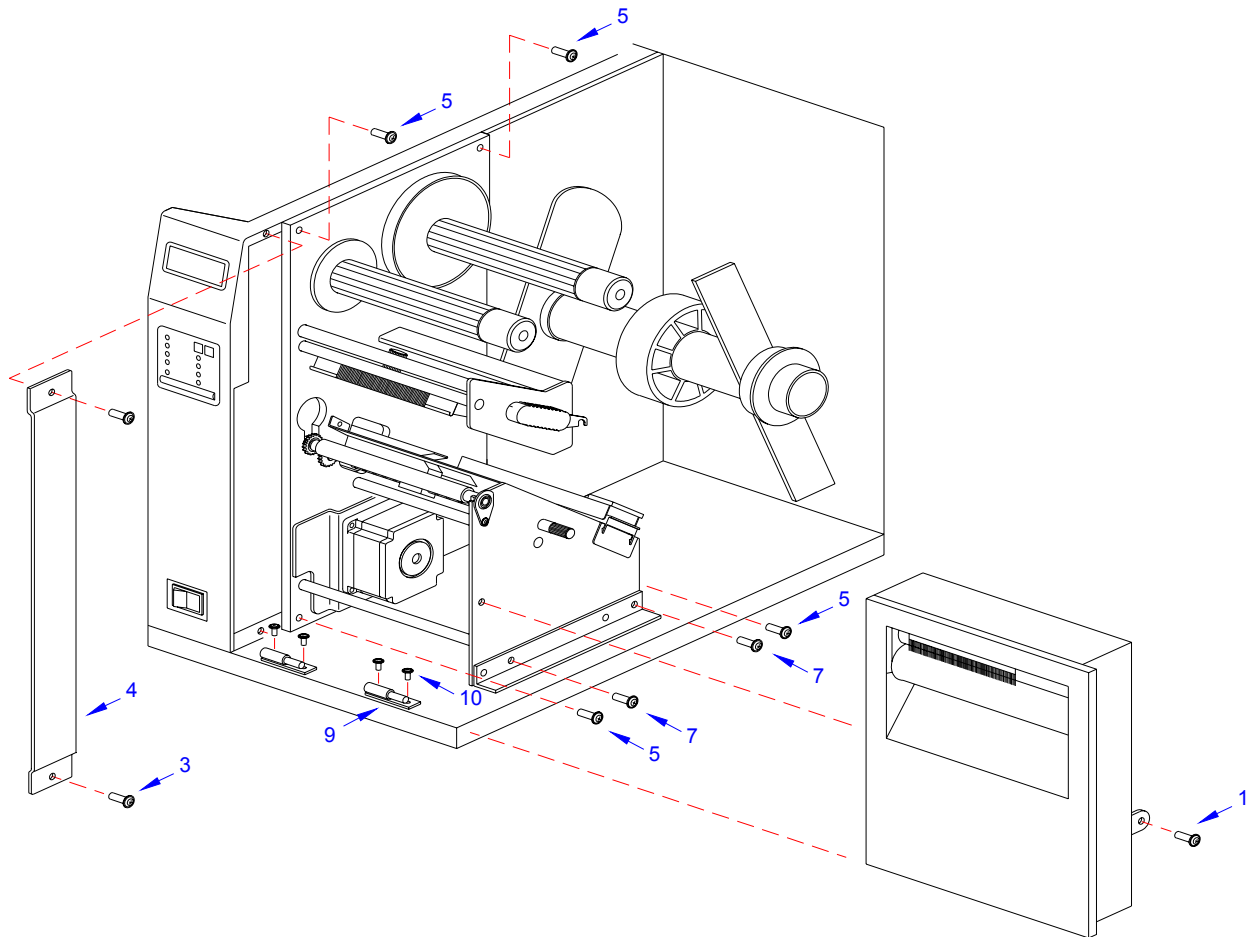

Figure 4-1b, Label Cutter Installation
9 Attach two hinge halves (9, Figure 4-1b) to the front base of the printer using two screws (10) for each.